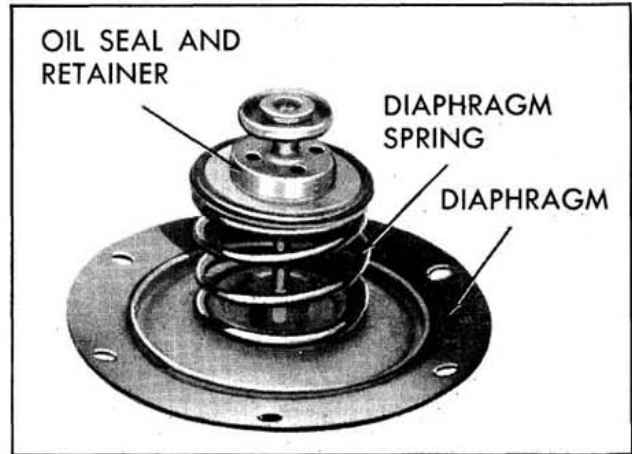

Fig. 3-40 Diaphragm Assembly
5. Remove pull rod and diaphragm assembly and rocker arm return spring. (Fig. 3-40)